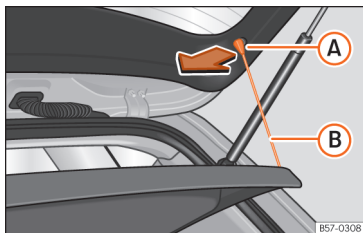

Fig. 115 In the luggage compartment: removing and fitting the shelf.
- Detach the cord loops »» Fig. 115 (B) from their hooks (A).
- Hook the loops »» Fig. 115 (B) to the rear lid.